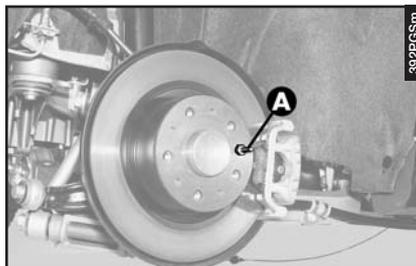
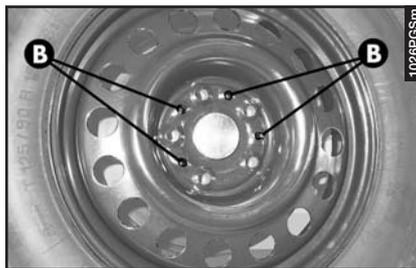

fig. 10
fig. 11
– Install the spare wheel making the hub pin (**A-fig. 10**) coincide with one of the holes (**B-fig. 11**) of the wheel.
– Install the wheel making the hub pin (**A-fig. 10**) coincide with one of the holes (**B-fig. 11**) of the wheel.